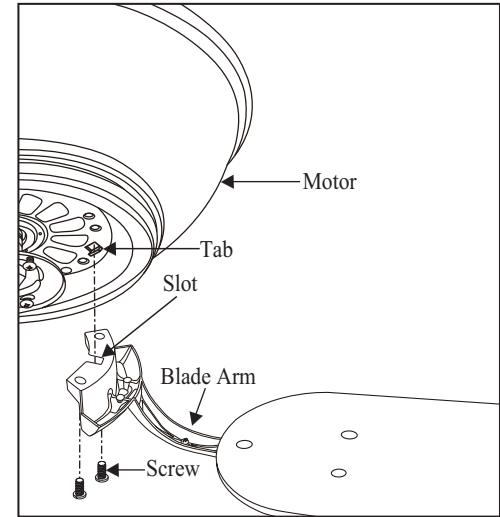

Figure 10
3. Fasten the blade assemblies to the motor housing by lining up the slots of the blade arms with the tabs on the motor housing, then tighten the two screws and washers already installed in the blade arms. (Figure 10)